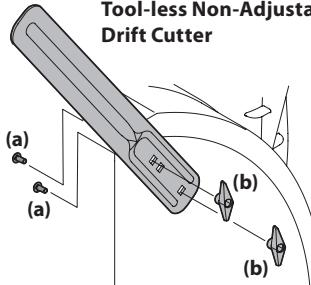

Figure 2-49
2. Turn the drift cutters around and position them as shown in Figure 2-49 to the outside of the auger housing.
1. Remove two carriage bolts (a) and wing nuts (b) that secure each drift cutter, and remove them from the sides of auger housing. See Figure 2-49.